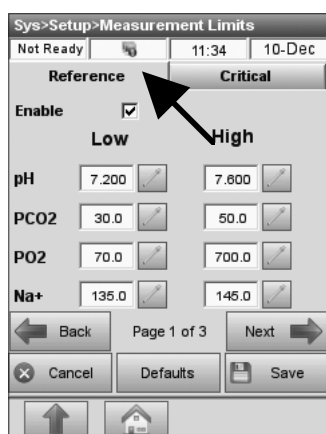

Fig. 3-34 Reference Limits
3. On the **<Reference>** tab (Fig. 3-34), select the parameter you want to change and press  to enter the new limit value. By default, reference ranges are enabled.